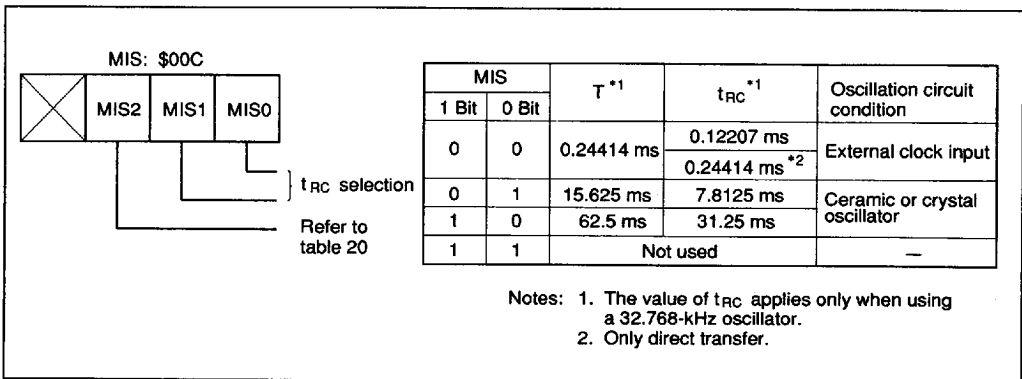

Figure 13 Miscellaneous Register
**Interrupt Frame:** In watch and subactive modes,  $\phi_{CLK}$  is supplied for timer A and the  $\overline{INT}_0$  circuit. Prescaler W and timer A operate as time bases to generate interrupt frame timing. Three interrupt frame cycles (T) can be selected by the settings of the miscellaneous register, as shown in figure 13.